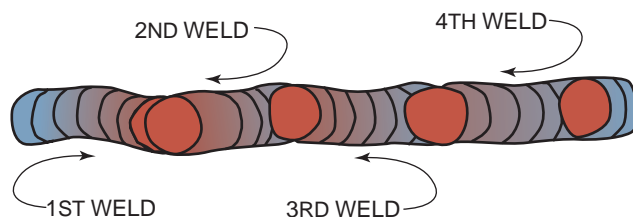

FIGURE 16-2 Welding sequence to produce the minimum weld stresses.
- **Welding procedure**—The size of the weld bead, the number of welds, and the length of the welds all affect the weld. When large welds are needed, it is better to make more small welds than a few large welds. The small welds serve to postheat the weld. They reduce stresses and result in less distortion. Sometimes a series of short back-stepping welds can be made, **Figure 16-2**. These short welds can be on very brittle metals like cast iron.